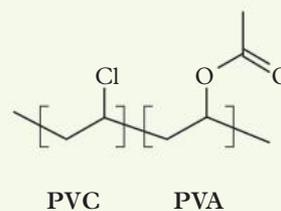

FIGURE 7 Polyvinyl chloride acetate
- 6 The addition copolymer polyvinyl chloride acetate (PVCA), as shown in Figure 7, is made from the two monomers PVC and PVA.